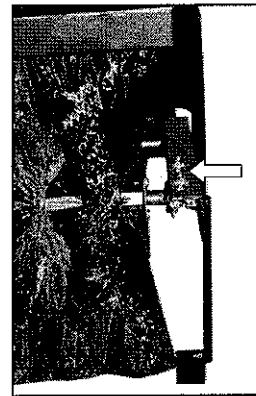

figure 24
3. Remove the 2 bolts from inside the left-hand side of the brush frame (figure 24).